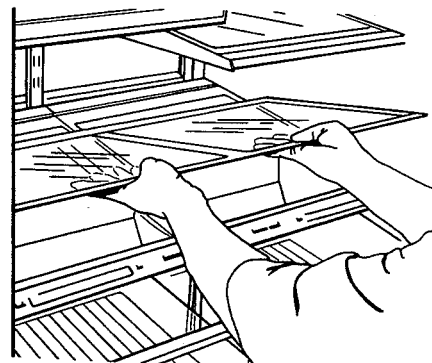

Figure 31
- Open drawer of left* hand crisper. Place one hand underneath the glass shelf. Push up. Grasp shelf with other hand. Tilt glass upperward at one end and remove from refrigerator. See Figure 31.